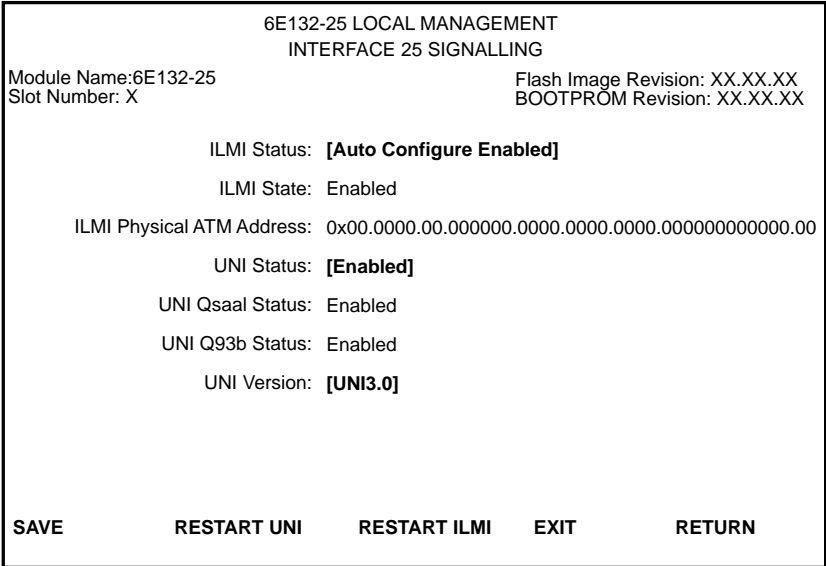

Figure 3-14 The Signalling Screen
2. Press ENTER; the Signalling screen, Figure 3-14, displays.
2. Press ENTER. The ATM Discovery ELAN Setup screen, Figure 3-14, displays.